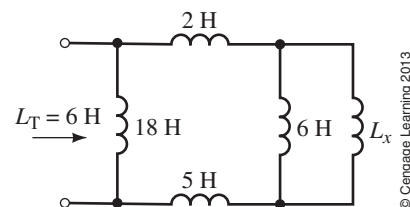

FIGURE 13-39
24. For Figure 13-39, determine L_x .